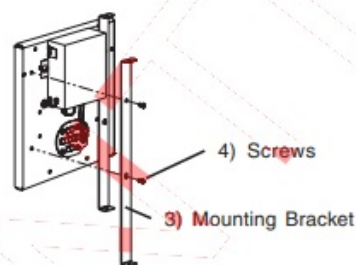

Fig 6
2. Install Mounting Brackets (3) by inserting Screw (4) through hole in mounting bracket and secure to housing. Install second screw through slot in bracket and secure to housing. See Fig 6.